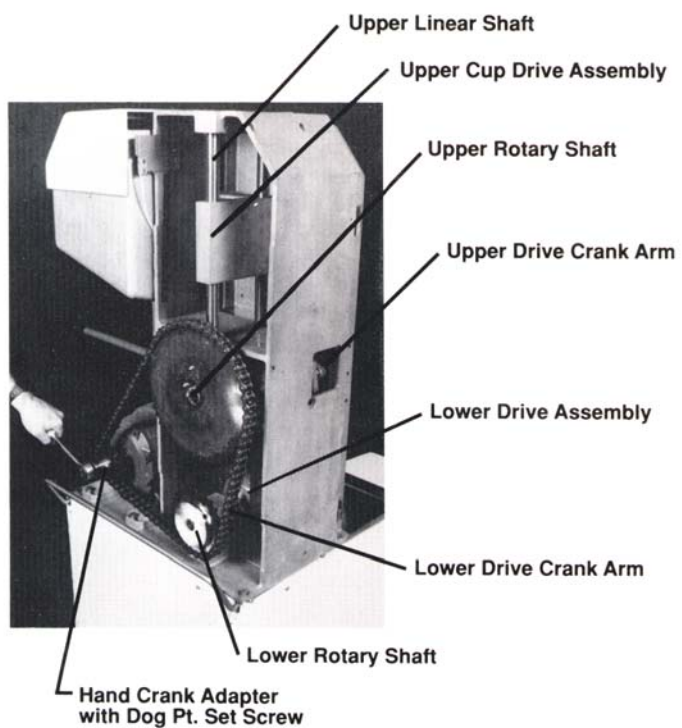

Figure 17. Back View of Juicer
Refer to Figure 17 and Figure 36, item 12.